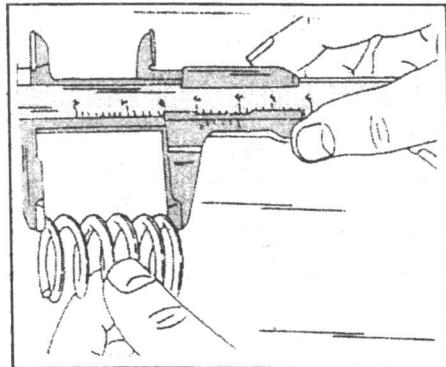

Fig. 1.54. — Measuring the free length of a valve.
**Valve Springs:** If the engine has a high mileage, always replace the valve springs as a set. To check a valve spring, place the old spring and a new spring end to end over a long bolt (with washer under bolt head) and fit a nut (again with a washer). Tighten the nut until the springs are under tension and measure the length of the two springs. If the old spring is shorter by more than 10%, replace the complete spring set. Check the free length of the valve springs (Fig. 1.54) and compare the values with the dimensions given in Section 1.4.0.0.